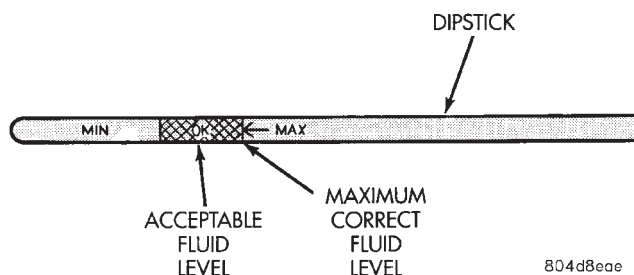

Fig. 11 Dipstick Fluid Level Marks—Typical
- (1) Transmission fluid must be at normal operating temperature for accurate fluid level check. Drive vehicle if necessary to bring fluid temperature up to normal hot operating temperature of 82°C (180°F).
- (2) Position vehicle on level surface.
- (3) Start and run engine at curb idle speed.
- (4) Apply parking brakes.
- (5) Shift transmission momentarily into all gear ranges. Then shift transmission back to Neutral.
- (6) Clean top of filler tube and dipstick to keep dirt from entering tube.
- (7) Remove dipstick (Fig. 11) and check fluid level as follows: